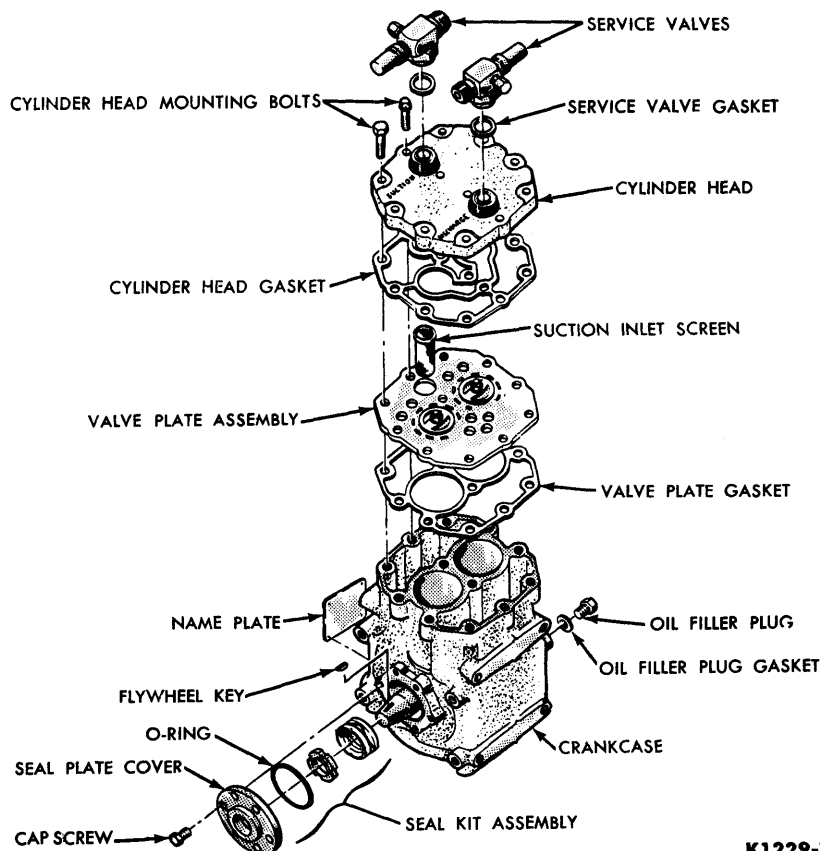

FIG. 14—Tecumseh Cylinder Head and Valve Assembly
2. Remove the cylinder head and valve plate from the top of the compressor body (Fig. 14). Do not tap or hit the head with any hard tool, as damage could result.
4. If the cylinders and pistons are in good condition, check the valve plate and valve reeds for damage. If the valve assembly is in good condition, it can be used again. If the valve plate is damaged, install the entire replacement kit which includes the valve plate, valve reeds, and the two gaskets (Fig. 14).
1. Starting with the valve plate gasket, assemble the parts in the order shown in Fig. 14. Insert the cylinder head bolts carefully to avoid damaging the gaskets. Before assembly apply a film of new refrigeration oil to both sides of both gaskets.
5. Remove the carbon seal ring and seal housing assembly from the crankshaft. A disassembled view of the crankshaft seal assembly is included in Fig. 14.